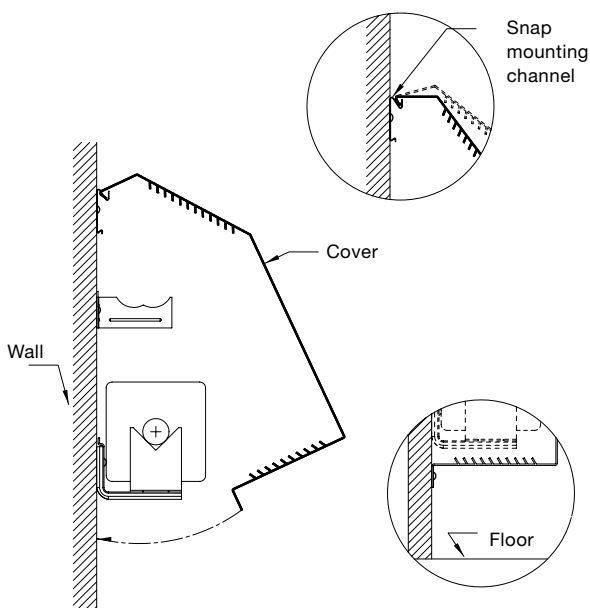

Figure H-5
1. Install the cover as shown. Secure cover to wall using suitable fasteners. (Figure H-5)